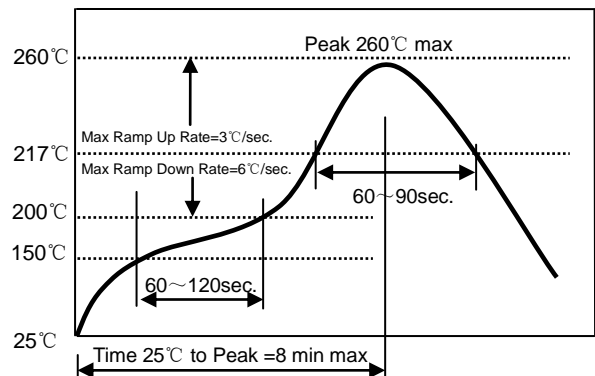

Fig. 11.1-1
- Please refer to Fig. 11.1-1.